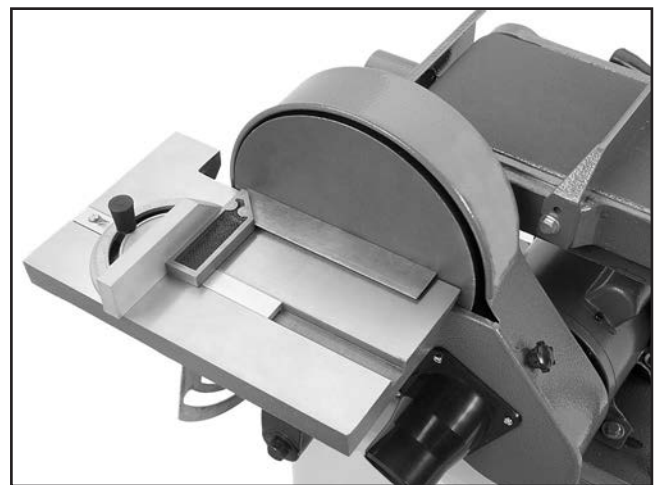

Figure 86. Calibrating miter gauge with square.
1. Place one edge of a machinist's square against the face of the miter gauge and the other against the sanding disc (see **Figure 86**) or sanding belt.